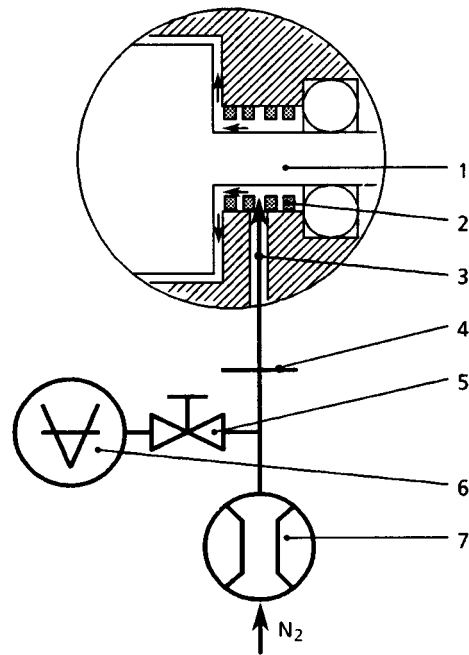

Fig. 12 Schematic diagram for the barrier gas facility
**Key to Fig. 12**
Shown in Fig. 12 is a schematic diagram of the barrier gas facility. The barrier gas is admitted between the impeller seals (12/2). Thus a gas flow is created which passes over the impeller seals and flows into the pump chamber of the pump. This gas flow prevents the entry of the pumped medium into the bearings and bearing chambers. Since the barrier gas is admitted between the impeller seals, the passage of oil from the bearing chambers into the pump chamber is prevented.